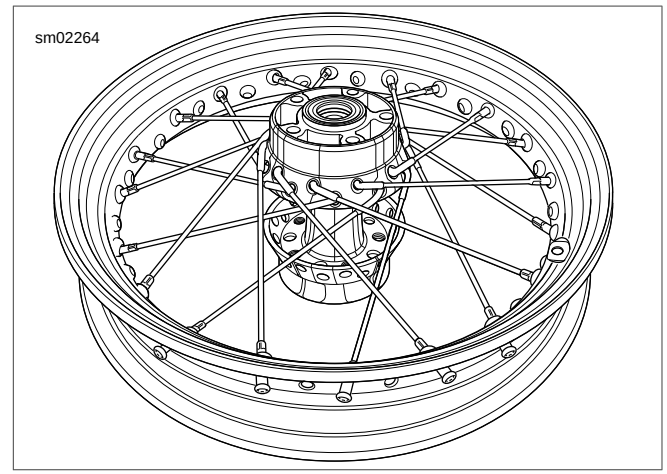

Figure 2-26. Brake Side Up: Top Row of Spokes Laced
6. See Figure 2-26. Install remaining nine upper row spokes into every fourth remaining hole above rim centerline. This completes spoke installation on brake disc side.